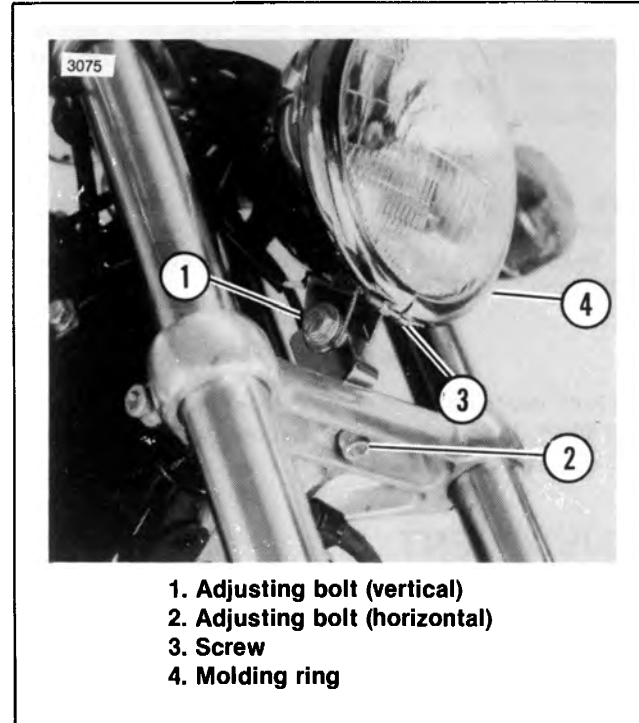

Figure 8-27. Headlamp Adjustment — FXLR
3. See Figure 8-27. If beam requires adjustment, loosen bolt (2) for horizontal adjustment and bolt (1) for vertical adjustment.
REMOVAL (Figure 8-27)
INSTALLATION (Figure 8-27)